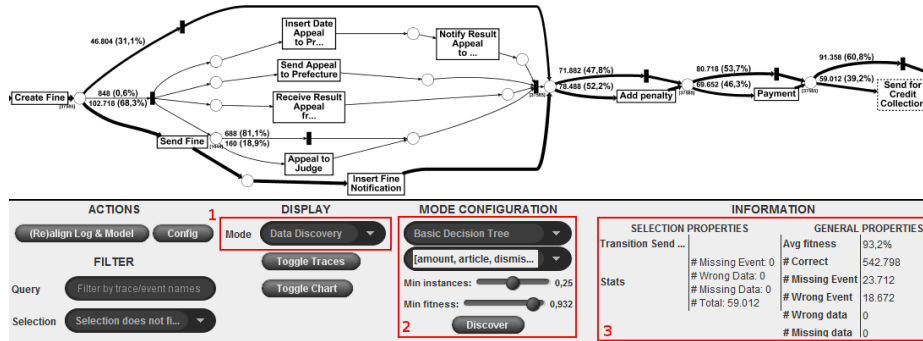

Fig. 1. Screen shot of the MPE where path frequencies are projected onto the model
*Step 1: Analysis of the Input Model.* The first step is to analyze the model provided as input. Figure 1 shows a screenshot of the MPE where the input process model is shown, along with information about the frequencies of paths as observed in the event log. This information is projected onto the model: The thickness of an arc indicates the frequency of observing a path including that arc in the event log. Below the process model, there are three areas highlighted by a red rectangle and marked with a number. The panel in area 3 gives general information about the fitness of the model wrt. the input event log. The fitness score measures whether the behavior observed in the event log is reflected in the model; For the model and the event log in question, the fitness score is 93.2%. This is computed by constructing an alignment between the model and the event log [3], which makes it possible to pinpoint the deviations that cause nonconformity. An alignment between a recorded process execution and a process model is a pairwise matching between activities recorded in the log and activities allowed by the model. Sometimes, activities as recorded in the event log (events) cannot be matched with any of the activities allowed by the model (process activities), thus resulting in so-called *moves on log*. In other cases, an activity should have been executed but is not observed in the event log, thus resulting in a so-called *move on model*. For our case study, there are 23,712 model moves, i.e. missing executions of activities, and 18,672 log moves, i.e. activity executions that occurred when not allowed by the model.
*Step 2: Data-aware Discovery.* This step is about discovering the guards associated with process activities. To do that, we need to switch the mode to *data discovery* in the *Display* panel (area 1 in Fig. 1). In the data discovery mode, the *mode configuration* panel looks like area 2 in Fig. 1. It allows users to configure which guard-discovery algorithm to use, which data attributes to consider along with tuning some specific algorithms parameters: the minimum number of elements associated with decision-tree leaves (*min instances*) and the minimum control-flow fitness for each trace to be considered (*min fitness*). For further information, readers can refer to [2]. Once parameters are chosen, the button *Discover* can be pressed. In this case, we choose the standard decision tree classifier configured to use all attributes and 25% as the *min instances* parameter, i.e., the number of elements is set to 25% of the process instances reaching a decision point. The *min instances* parameter is important as it influences whether the discovered guards are over-fitting (value too low), or under-fitting (value too high).
Figure 2 shows an excerpt of the visualization when in *fitness* mode. In particular, the focus is on the activity *Send for Credit Collection*, for which the following decision rule has been discovered:  $\text{amount} > 71$  (area 5). Each activity is colored according to the ratio between the number of compliant executions of the activity and the total moves for that activities (which also accounts for missing events and executions with incorrect data). The relatively dark color of the *Send for Credit Collection* activity indicates a considerable fraction of non-compliant executions. Moreover the statistics show that according to the new model the data values observed in the event log are wrong 30,308 times (area 7). If we compare the average fitness of the model with and without activity guards (compare area 3 in Fig. 1 with area 6 in Fig. 2), it is clear that the presence of data guards has decreased the fitness level from 93.2% to 90.1%. However, this is not necessarily negative: fitness is only one of the measure to evaluate the quality of a model. A second measure is *precision*, which is the ratio between the amount of behavior observed in the event log and the amount of behavior described by the model. Adding guards increase the precision because the added rules restrict the behavior allowed by the model. The MPE also allows for computing precision [5]. This is done by switching the display mode to *precision*. For sake of space, a detailed description of the *precision mode* is only showcased in the screencast.